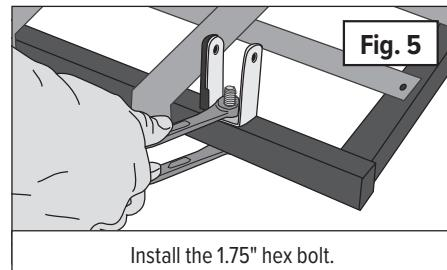

Fig. 5
3. **(Fig. 5)** Move to the front of the frame and bolt the hinge brackets onto both sides of the frame using a 5/16 x 1.75" hex bolt, washer and nylon lock nut provided in the **bag "B"**. Install the bolt and washer up from the bottom.